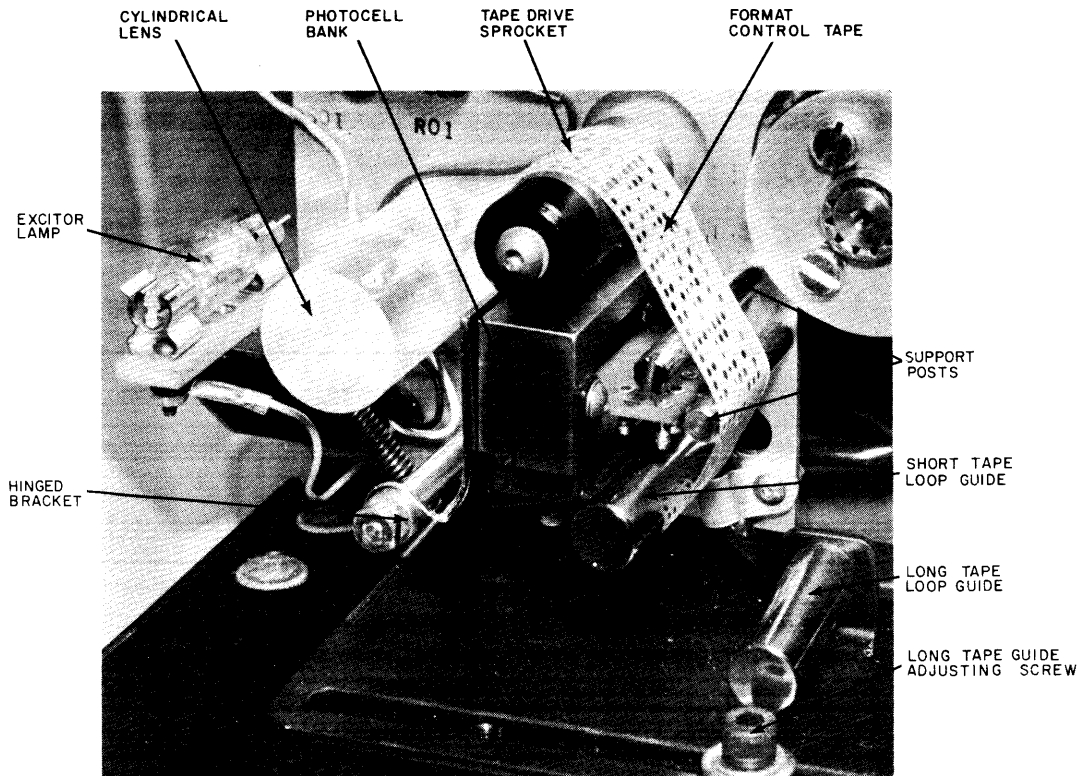

Figure 6. Format Tape Reader
- 1) Press lower, extended portion of hinged bracket (see Figure 6) to right, causing bracket to pivot and move away from photocell station.
- 4) Fit sprocket holes of tape over sprocket drive wheel and over outer side of support post and short loop guide (see Figure 6). Release hinged bracket.